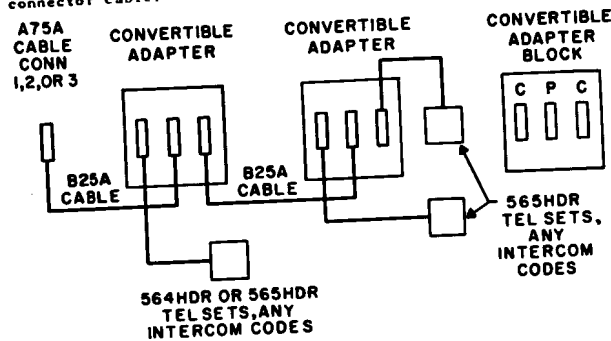

Fig. 4 - Suggested Intercommunicating Signal Connections Using 564HDR or 565HDR Telephone Sets
- Fig. 4 - Suggested Intercommunicating Signal Connections Using 564HDR or 565HDR Telephone Sets
2.10 Fig. 4 shows possible arrangements for intercommunicating signal leads and for extending stations using a 3-way bridging adapter.